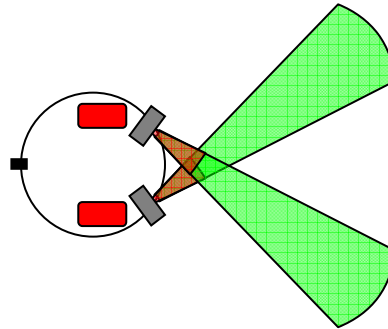

Figure 16.27. Crisscrossing two IR sensors affords us left, right, and forward views.
2. Another method involves using two IR sensors mounted on the front sides of the Mouse aimed in a crisscross fashion, as shown in Figure 16.27.¹⁹ This gives us the added bonus to simultaneously monitor the left, right, and front regions of the robot with only two infrared sensors.